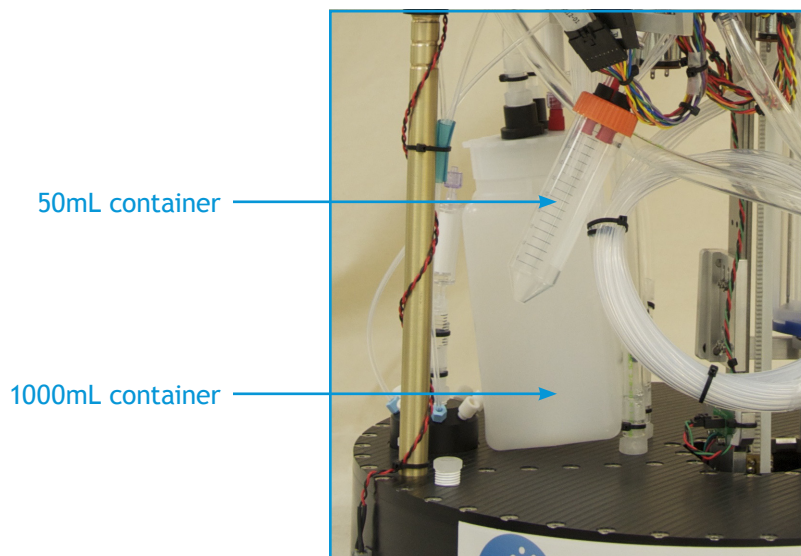

Figure 5-2: Clean air containers
1. Unscrew a container from its cap. See Figure 5-2.